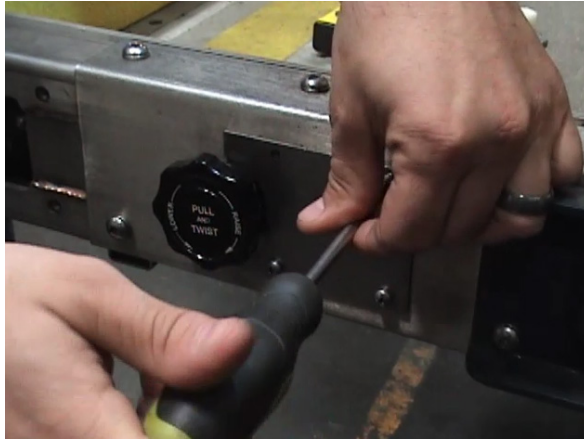

FIGURE 4-9: REMOVE MANUAL RELEASE COVER PLATE AND RH ROLLSTOP COVER
- 4) Refer to Figure 4-9. Remove four (4) screws to remove Manual Release Cover Plate then remove six (6) screws to remove Rollstop Cover.